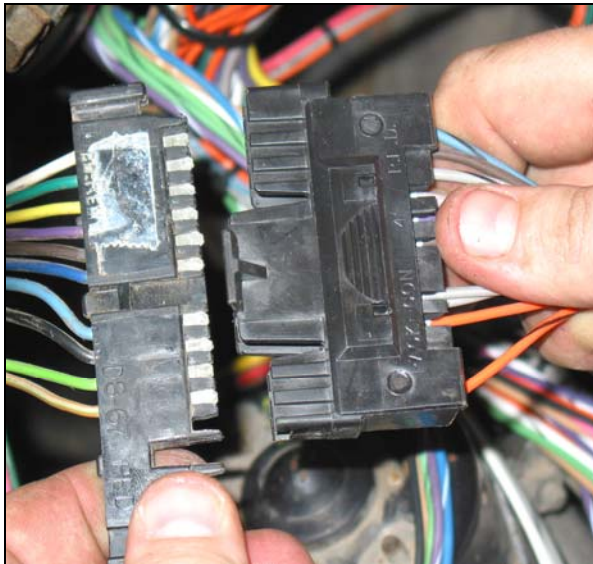

Figure 7.4.3 *Turn Signal Switch Connection*
- 7.4.3** The TURN SWITCH wires come pre-terminated with a connector installed. Slide the connector onto the TURN SWITCH pigtail. (see **Figure 7.4.3**) This will be the wires coming from the column with the long black connector.